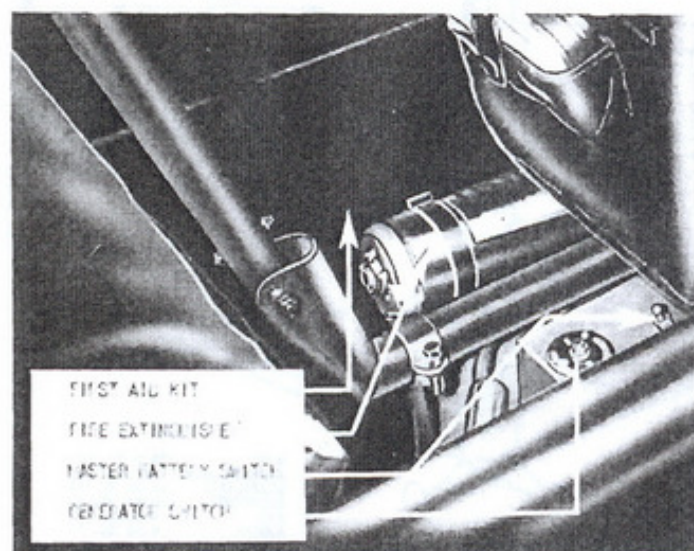

Figure 6 -
a. The Emergency Equipment. (See figures 6 and 7.) - Looking through the door into the cockpit between the front and back seats, clipped to the floor is the one U.S. quart (0.8 Imperial quart), carbon tetrachloride,
(2) The metal battery box is located on the floor just aft of the fire wall (model L-4A only). The battery is provided with master fuses and spares. The conventional dual control sticks operate the elevators and ailerons. Aft of the front seat to the right of the torque tube is located the switch box (model L-4A only) containing the master and generator switches. (See figures 6 and 16.) These controls have no relation to the power plant. Aft of the front seat to the left of the torque tube is the fire extinguisher. (See figures 6, 16, and 17.)
j. In case of fire, cut off ignition and fuel at once. A hand fire extinguisher is located on the floor of the cockpit behind the front seat at the left. (See figures 6 and 7.)